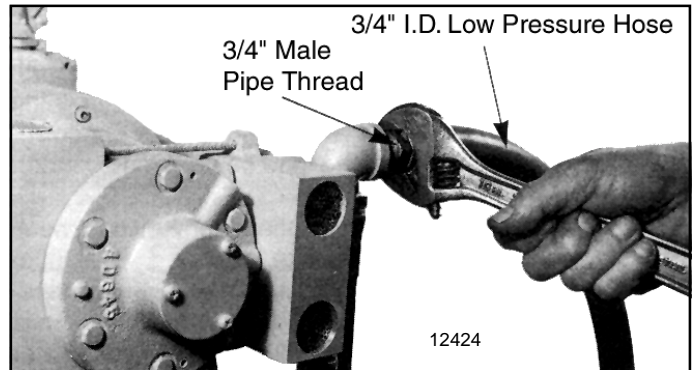

Figure 2-1. Connecting Air Hose to Hoist
- Connect hoist to nearest filtered and lubricated air source using 3/4" I.D. air hose (see Figure 2-1). Avoid use of hose assemblies of smaller diameters that will cause air flow restrictions and reduce hoist performance.